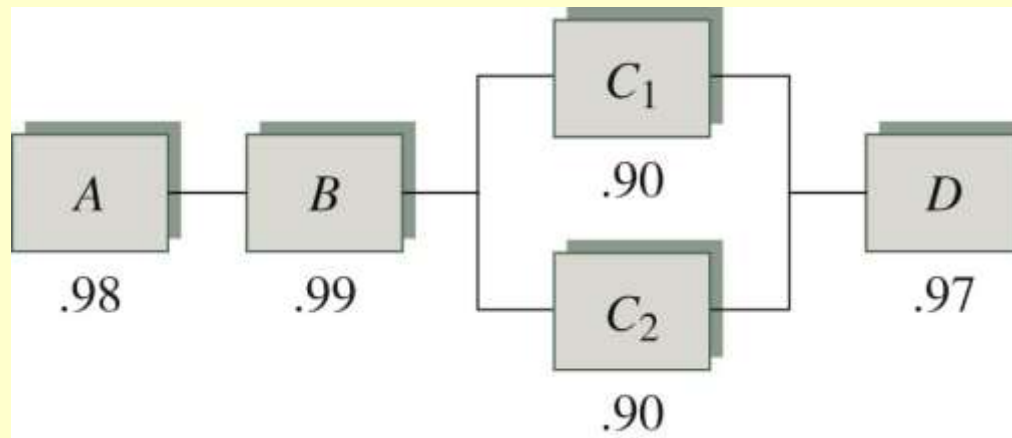

Figure 12-10
- Figure 12-10 has one such system.